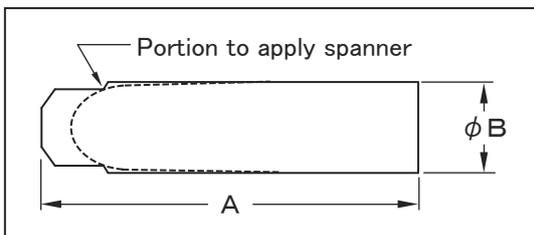

Fig.2
- Replace if wear of the outer circumference of the vibration head reaches the maximum wear limit of the dimension (A or B) of Table 3 (for each model).(Fig.2, Table 3)